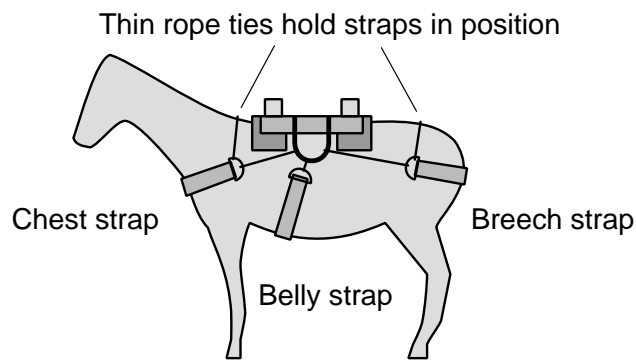

Figure 2: saddle secured to donkey with straps.
breaching strap is pulled up high so that it does not rub the backs of the legs. But it should not be so high that the animal cannot defecate. Tie a piece of thin rope across the animal's back between the rings of the strap to hold the strap up as shown in Figure 2.
- 5) Hook the chest strap to the loop and adjust the tension so that it is a little loose. Use another short piece of rope to hold the chest strap up so that it is just below the windpipe as shown in Figure 2. The strap only goes tight when the